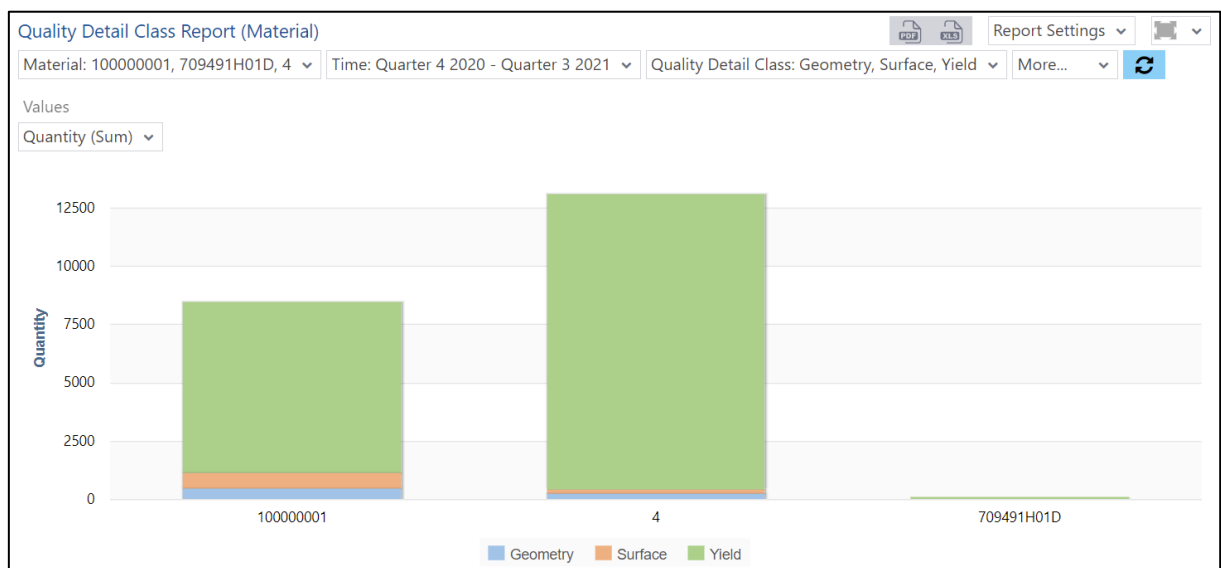

Fig. 125: Quality detail class report (material) as a column chart
- Quality detail class report (material) as a column chart (fig. 125):
- Quality detail class report (operation) as a column chart (fig. 125):